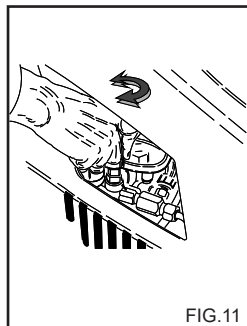

FIG. 11
This chapter concerns only those models provided with the "pressure regulating" device. The pressure regulator, fig. 11, allows the operator to adjust the working pressure. When knob C is turned in an anti-clockwise direction (B) (minimum), the working pressure is reduced.